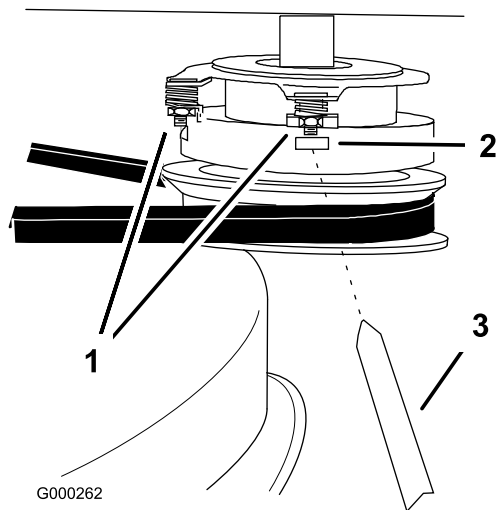

Figure 47
1. To adjust the clutch, tighten or loosen the lock nuts on the flange studs (Figure 47).
2. Check adjustment by inserting a feeler gauge through the slots next to the studs (Figure 47).